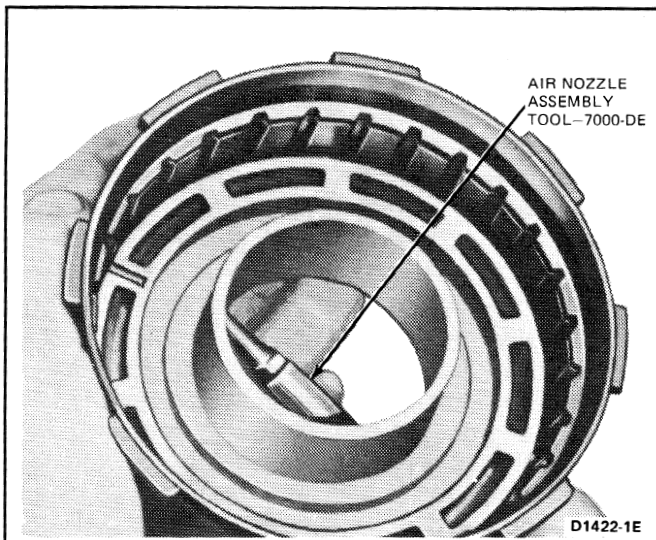

FIG. 43 Removing Reverse-High Clutch Piston
5. Apply air pressure to the piston apply hole in the clutch hub using TOOL-7000-DE (Fig. 43) and remove the piston.